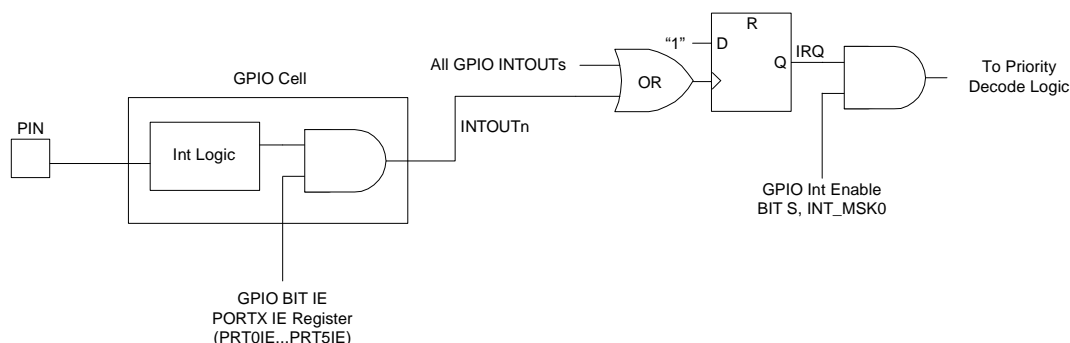

Figure 11: GPIO Interrupt Enable Diagram
6. Because the GPIO interrupts all share the same interrupt vector, the source for the GPIO interrupt must be cleared before any other GPIO interrupt will occur (i.e., the **OR** gate in Figure 11: "ors" all of the INTOUTn signals together). If any of the INTOUTn signals are high, the flip-flop in Figure 11: will not see a rising edge and no IRQ will occur.